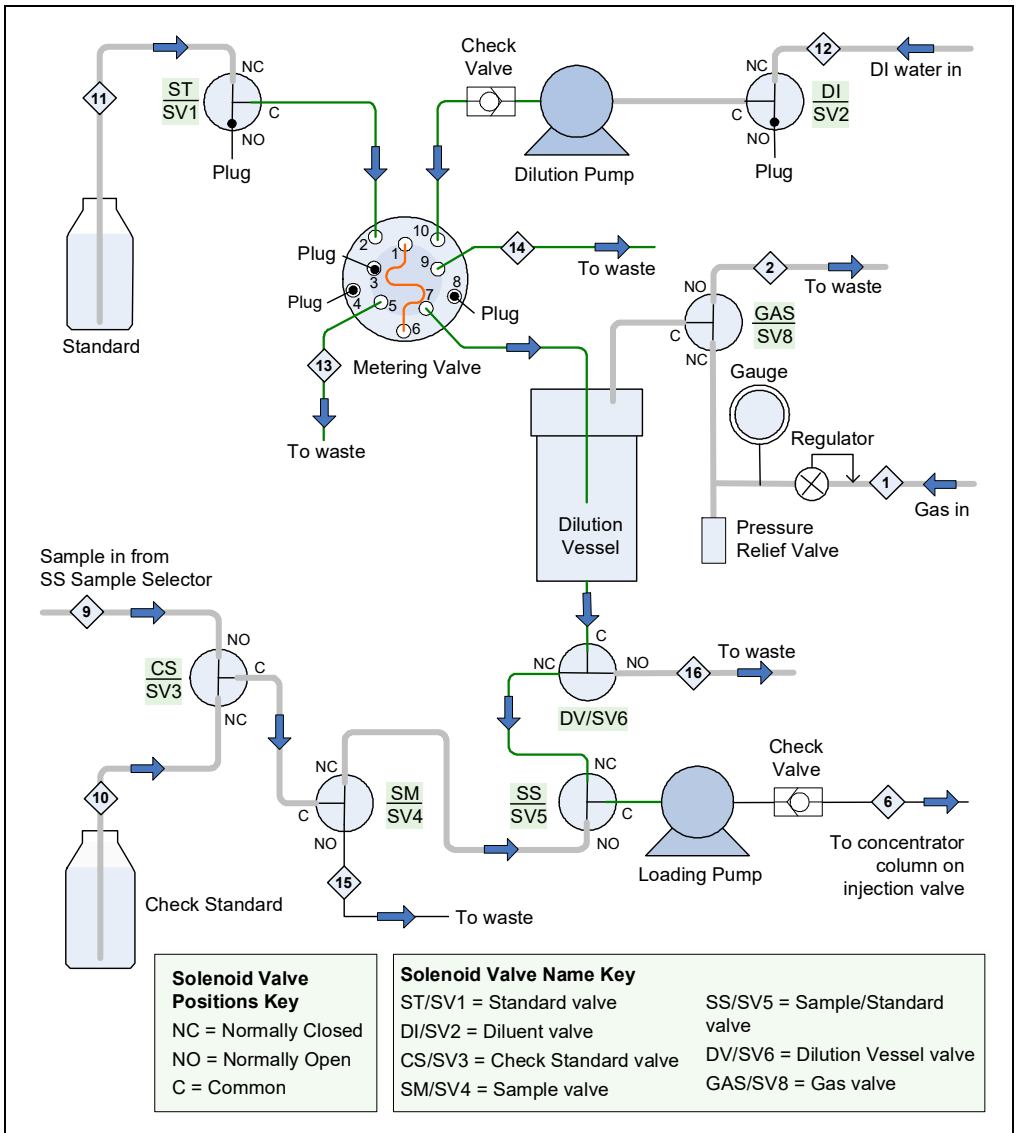
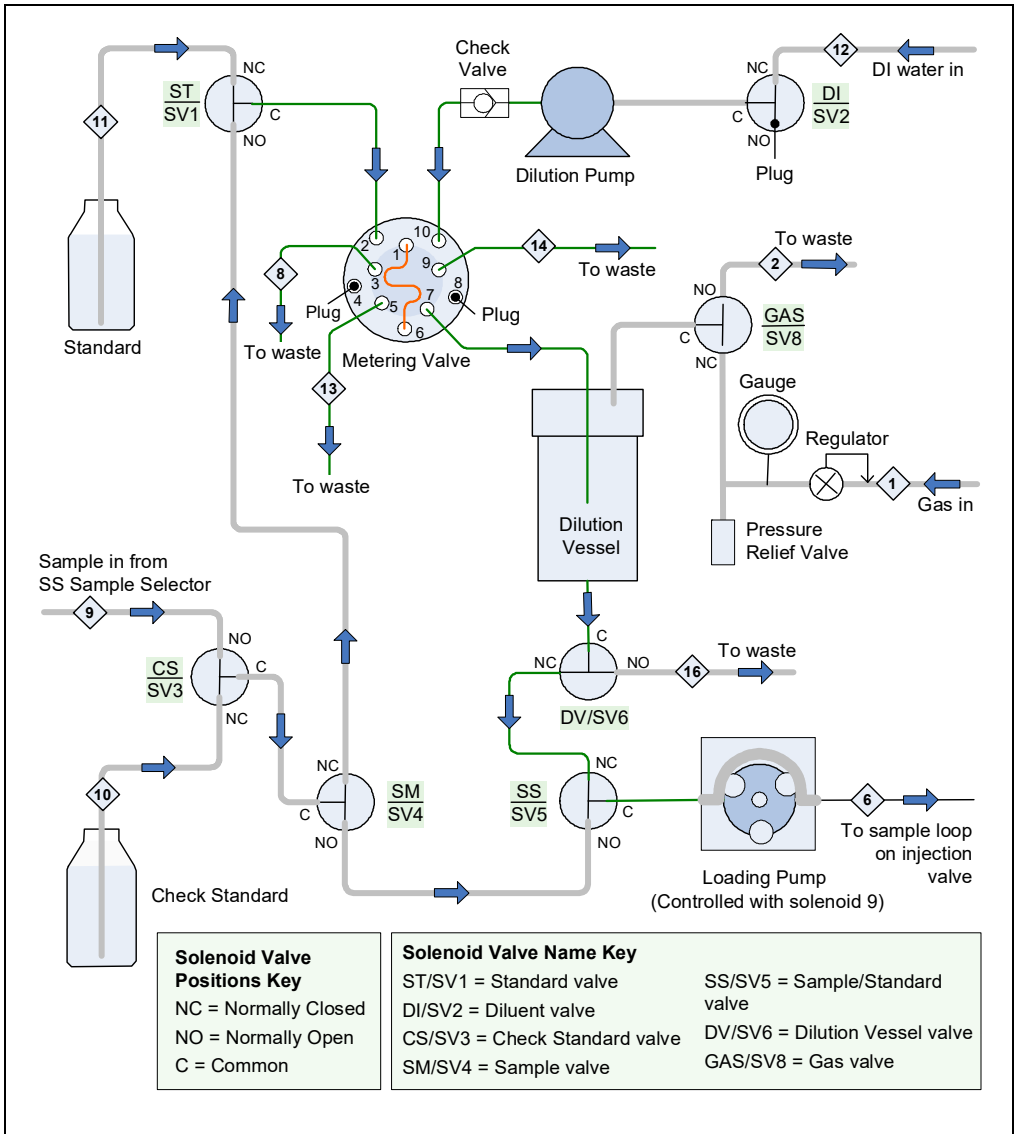

Figure 3-11. SP1 Component Flow Path
Figure 3-14. SP2 Component Flow Path
When using the vial cooler to cool a standard, set the standard vial in the cooler and direct the line from the ST valve (see Figure 3-11) to the vial.
**NOTE** The numbered diamonds in Figure 3-11 indicate gas and liquid input and output (I/O) lines. For I/O line port assignments, see Section 3.6.4.
**NOTE** The numbered diamonds in Figure 3-14 indicate gas and liquid input and output (I/O) lines. For I/O line port assignments, see Section 3.6.4.
For the location of each I/O line in the flow path, see Figure 3-11 (for the SP1) or Figure 3-14 (for the SP2).